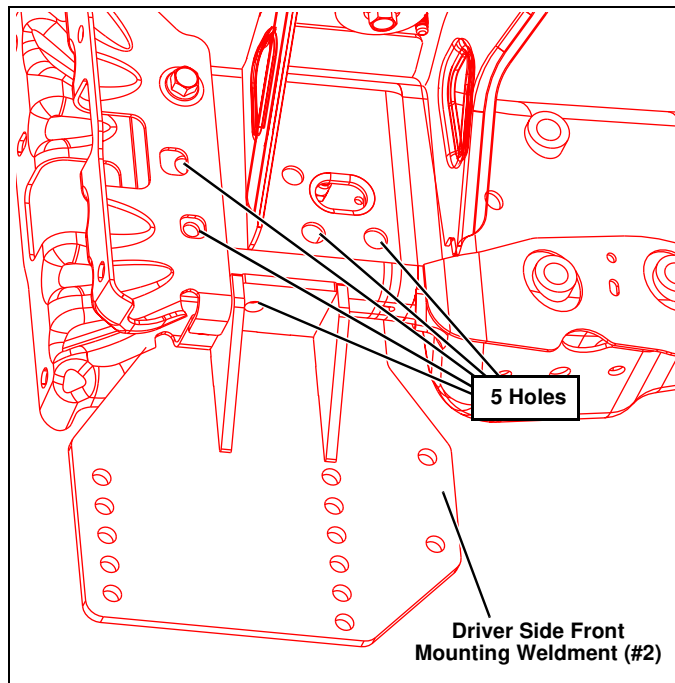

Figure 4
- Place the Driver Side Front Mounting Weldment (#2) against the frame rail and align its 5 holes with the holes in the frame. (See Figure 4.)